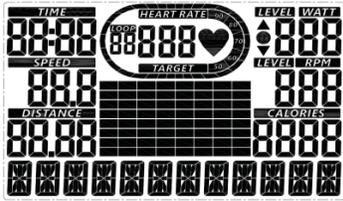
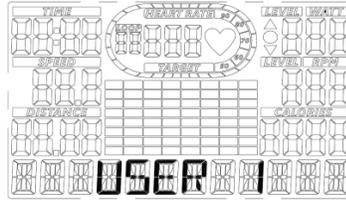

Fig. 1
Fig. 2
- The console beeps after turning on the power and LCD is with full display for 2 seconds, as shown in fig. 1 following by showing the software version and system specification for another 2 seconds. To set the personal information, press UP (▲)/DOWN (▼) buttons followed by “SET” button to confirm. Setting process: USER→Sex→Age→Height→Weight, as shown in figs. 2 ~ 6. It enters ready mode after setting.